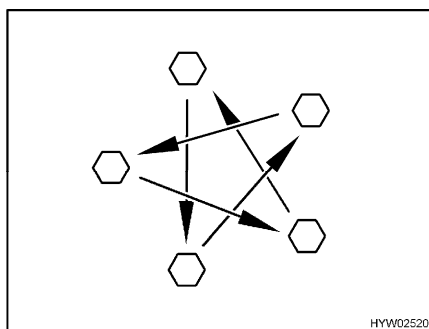

Fig. 224 Tighten the wheel nuts or wheel bolts cross-wise
- Check regularly that the wheel nuts or wheel bolts are firmly seated. Re-tighten the wheel nuts or wheel bolts of a changed wheel cross-wise (Fig. 224) after 50 km (30 miles).